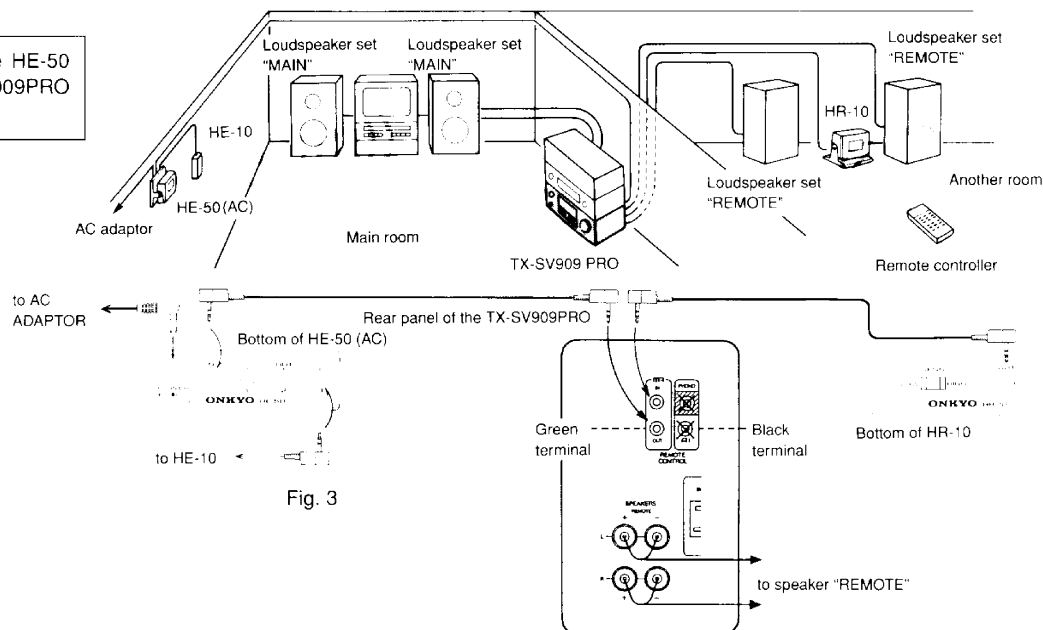

Fig. 3
- A connection example using the HR-10 (option) and HE-50 (AC) (option) to control components in the main room from another room is shown in Fig. 3.